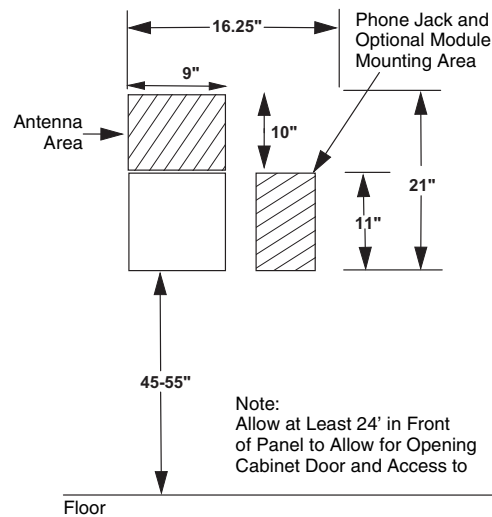

Figure 1. Determining Panel Location
- Mount the panel at a comfortable working height (about 45 to 55 inches from the floor to the bottom of the panel, as shown in Figure 1).